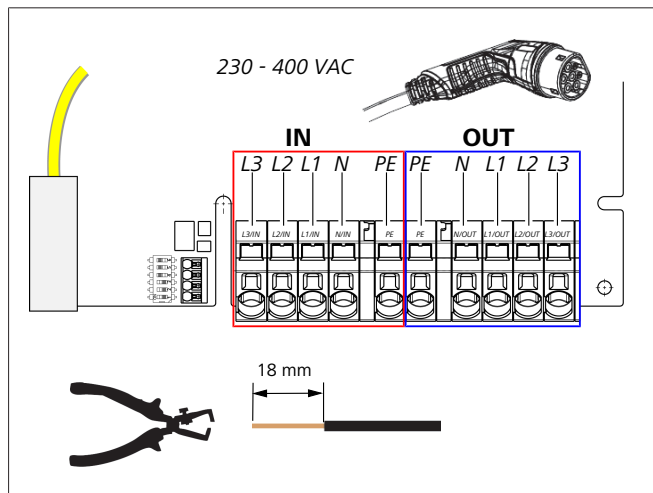

Fig. 8
9. Using the slot-head screwdriver (3.5 mm), connect the individual cable ends according to the specification in the illustration (Fig. 8) on the right terminal block with the "OUT" label.
1. Using the slot-head screwdriver (3.5 mm), connect the individual cable ends according to the specification in the illustration (Fig. 8) on the left terminal block with the "IN" label.